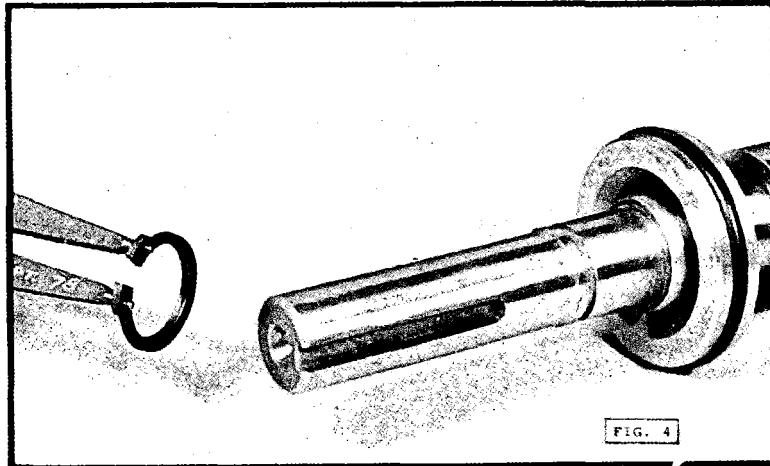

FIG. 4
4. Use snap ring pliers and remove snap ring (021), Fig. 4.
6. Place ball bearing (020 ) on shaft. Then using a hollow tube, press on bearing inner race to seat bearing against snap ring. (Fig. 4).